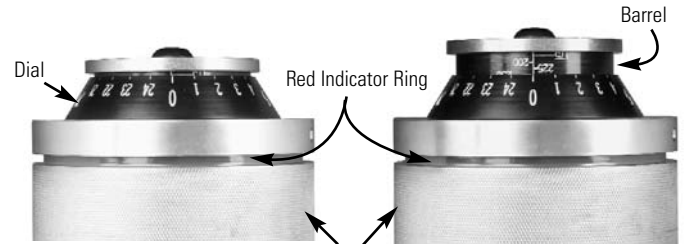

Figure 4
There are 25 marks on the dial (0-24) and 15 marks on the barrel (175-525 by 025 increments). The top of the barrel corresponds to a 160 setting. When the adjustment knob is rotated to the top most position on the crimper, and the "0" mark is located as shown in Figure 4, the machine setting is 160. Each complete downward rotation of the adjustment knob increases the target setting by 025; each mark around the dial corresponds to a 001 change in target setting. For example, to achieve a target setting of
5. When the fitting is fully crimped, all movement in the machine will stop and the black guard around the piston (pinch point hat) will move up and completely cover the red indicator ring (see figure 4 and figure 5) located on the adjustment knob.